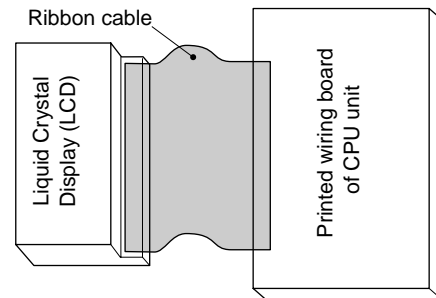

Figure C-10. CPU unit
- Before the door panel is reinstalled to the door frame assembly, make sure that the 7-pin wire harness is held by the four (4) tabs and two (2) holes on the door frame assembly as shown in Figure C-10(b).